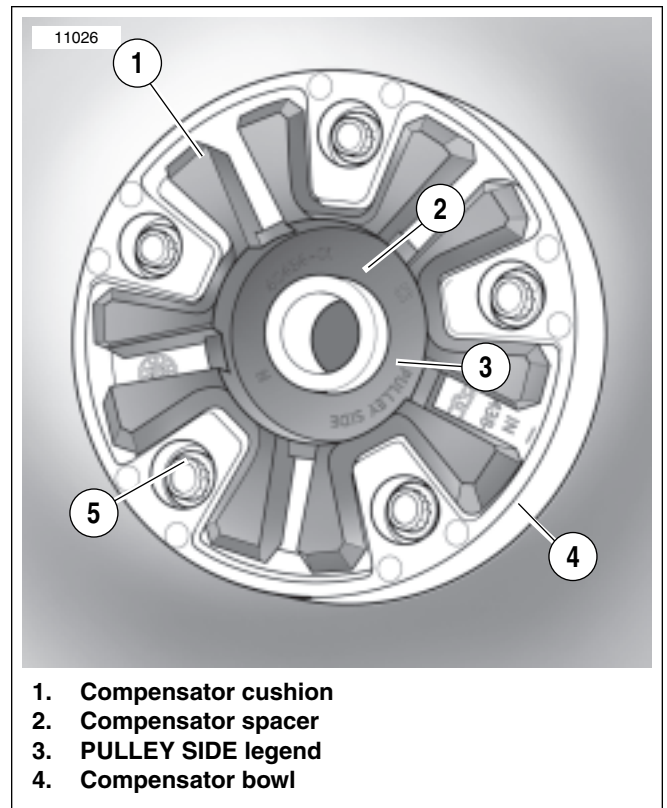

Figure 2-16. Compensator Cushion in Compensator Bowl
1. See Figure 2-16. Pull sprocket out of rubber compensator cushion and compensator bowl (4) mounted to disc wheel.
2. Pull compensator spacer (2) and compensator cushion (1) from compensator bowl (4) mounted to disc wheel.
6. See Figure 2-16. Lubricate compensator cushion (1) with a detergent spray like Windex™ and install compensator cushion. Be sure the PULLEY SIDE legend (3) is facing out.
7. Install the compensation spacer (2) with the grooved end in the cushion (1).